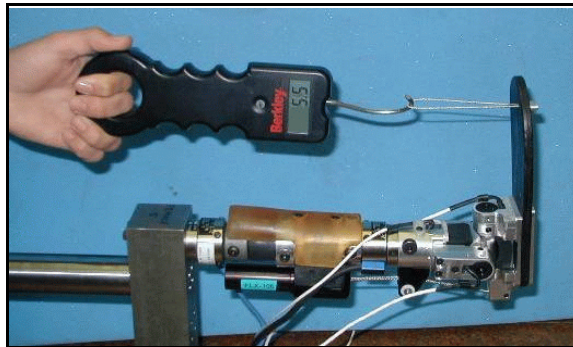

Figure 3.45 Calibration of the Achilles Cable Assembly
6. Pass the Achilles Cable Calibration Loop (T1CEM410) through the calibration hole in the toe section of the foot plate - the swaged end should rest on the inferior aspect of the sole plate. Attach a hand held force scale (accuracy: ± 0.2 lbf) to the calibration loop, as shown in **Figure 3.45**.